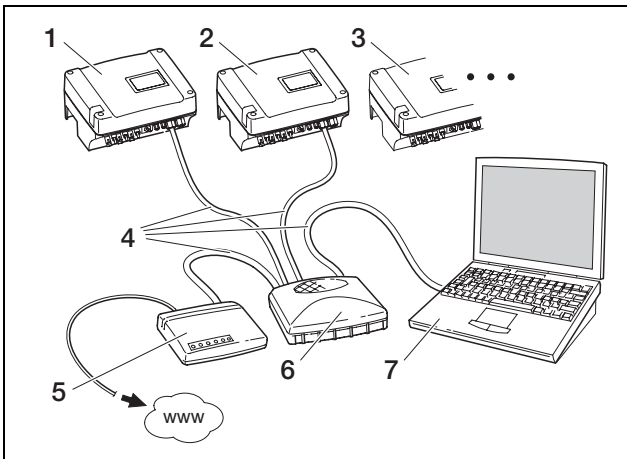

Fig. 70: Communication board I:
- The option "Auto IP/DHCP" is suitable for most applications (figure 70 or 71).